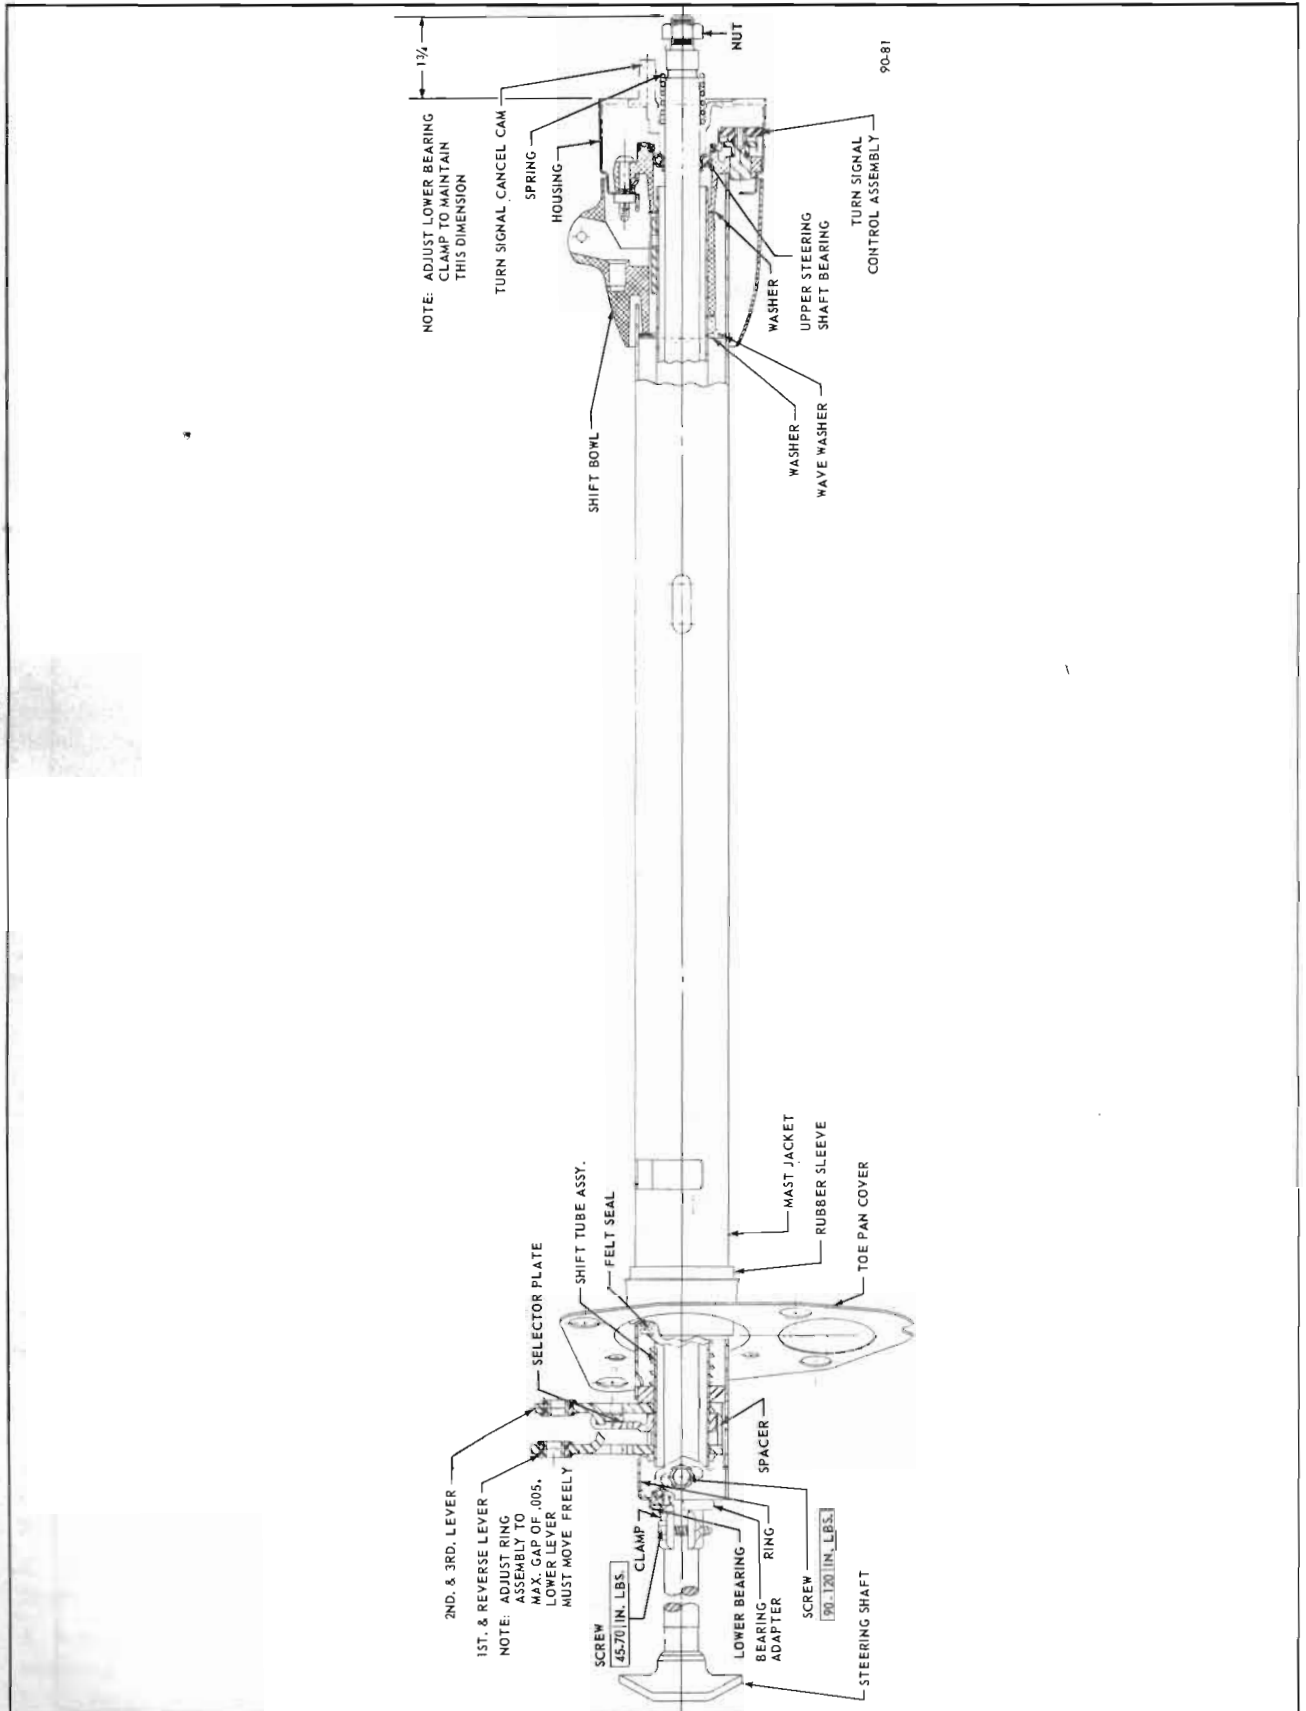

Figure 90-81—Mast Jacket and Transmission Control Shaft Assembly Three Speed Manual Transmission (43-44000 Series)
NOTE: If the clamp on the steering shaft was loosened or removed, readjust dimension of upper end of shaft to cover as shown in Figure 90-81.
NOTE: If the clamp on the steering shaft was loosened, readjust dimension of upper end of shaft to cover as shown in Figure 90-81.
2. Adjust ring at lower portion of mast jacket for maximum gap of .005 inch. Lower lever must move freely. See Figure 90-81.